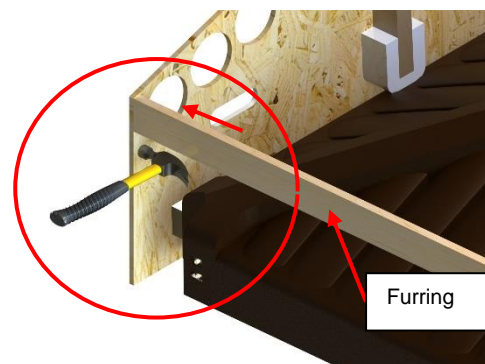

Figure 35
- 18) Gently hammer off the last wood furring strips on the front of the crate. **Consider hammering the side panel in an outward direction to prevent damaging the COVANA cover.** (Figure 35)
- ♦ Be careful not to damage the cover during this process. (Figure 35)